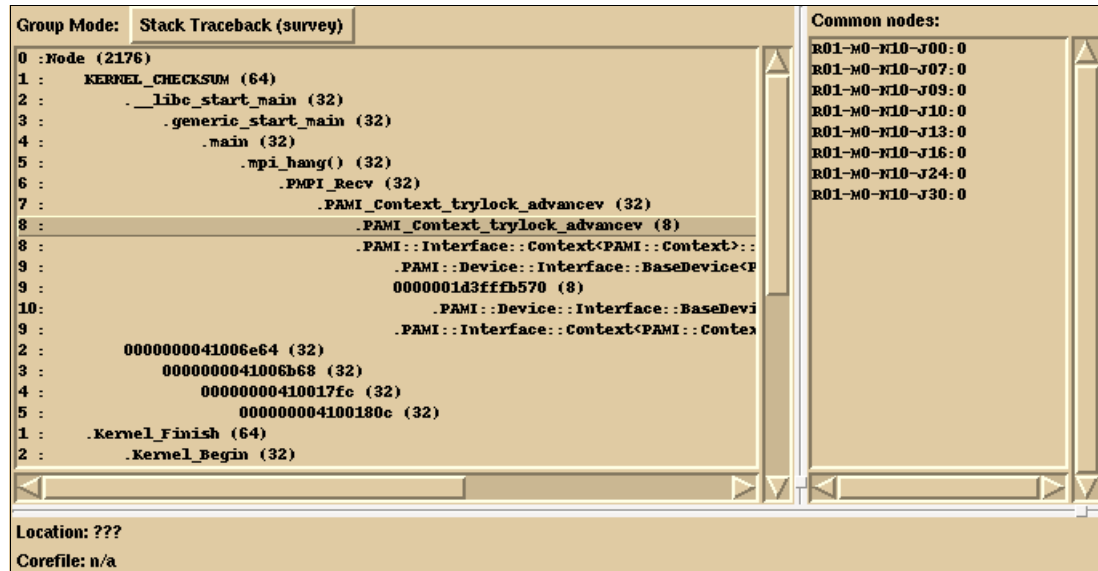

Figure 22-6 Stack traceback common nodes
- ▶ If you click any line in the stack dump, the upper-right pane (labeled Common nodes) shows the list of nodes that share that stack frame, as shown in Figure 22-6.